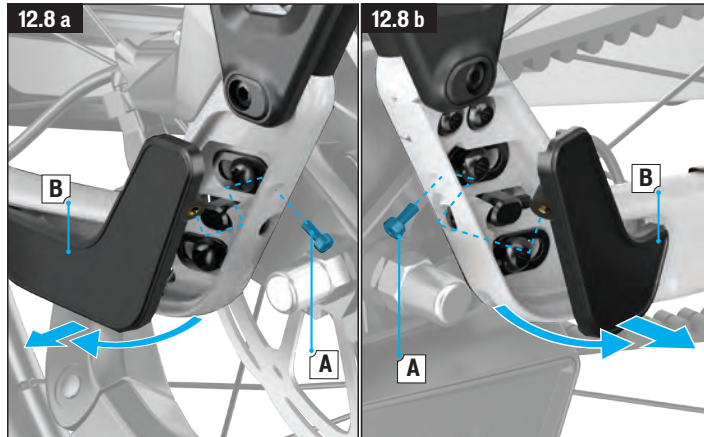

Fig 12.8 A & B
- Remove the adjustable dropout covers (fig. 12.8 A-B).
- Using a TX25 wrench, remove the upper seatstay coupler bolts (A) and the seatstay coupler barrel (B) from the dropout.
- Pull the chainstay and seatstay apart and slide the belt carefully through the gap in the seatstay (C).